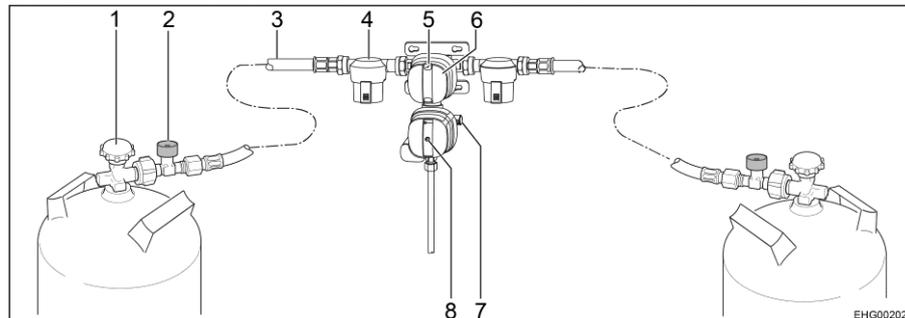

Fig. 119 Safety gas pressure regulating system DuoControl CS
The DuoControl regulating system consists of a reversing valve and a crash sensor. The DuoControl regulating system is installed between the high-pressure hoses (Fig. 119,3) with hose break guard (Fig. 119,2). The knob (Fig. 119,6) on the reversing valve is used to select which of the gas bottles is to be used as primary bottle and which is to be used as reserve bottle.
The status of the gas supply is indicated in the inspection window (Fig. 119,5):
The crash sensor blocks the gas supply in the event of a significant impact (e.g. accident). The situation of the yellow reset button (Fig. 119,8) indicates the operating status of the crash sensor:
- If the yellow reset button (Fig. 119,8) is in the pressed-in position, the crash sensor is ready to operate.
- If the yellow reset button (Fig. 119,8) is protruding, the crash sensor is **not** ready to operate. Putting into operation, see below.
The hose break guard (Fig. 119,2) blocks the gas flow if the connected hose breaks. The hose break guard must be activated by pressing the green button.
- Use the knob (Fig. 119,6) on the reversing valve to select the gas bottle which is to be the primary source of gas (primary bottle). Always turn the knob as far as it will go.
- Open regulator taps (Fig. 119,1) on the gas bottles.
- Press and hold the green button of the hose break guard (Fig. 119,2) for about 5 seconds. The green marking is shown in the inspection window (Fig. 119,5).
- If the crash sensor has triggered (the yellow reset button (Fig. 119,8) is protruding):
Press the yellow reset button (Fig. 119,8) in forcefully, turn it slightly in a clockwise direction and hold it for about 5 seconds. Make sure that the reset button remains in the pressed-in position ("ready for operation"). If it is not possible, reset the system as described: Use the Torx insert T20 on the included screwing aid to strengthen the rotary movement.
- Close regulator taps (Fig. 119,1) on the gas bottles.
If the green indicator lamp (Fig. 120,6) goes out during operation and the red indicator lamp (Fig. 120,5) lights up, the primary bottle is empty and must be changed. The red marking is shown in the inspection window (Fig. 119,5) of the associated gas bottle. The reserve bottle continues supplying the gas appliances with gas.
- Turn the knob (Fig. 119,6) as far as it will go in the direction of the gas bottle currently used. In this way, this gas bottle is the primary bottle now, and the empty gas bottle becomes the reserve bottle. The marking in the inspection window (Fig. 119,5) changes from red to green.
- Close regulator tap (Fig. 119,1) on the empty gas bottle. Pay attention to the direction of the arrow.
- Press the green button of the hose break guard (Fig. 119,2).